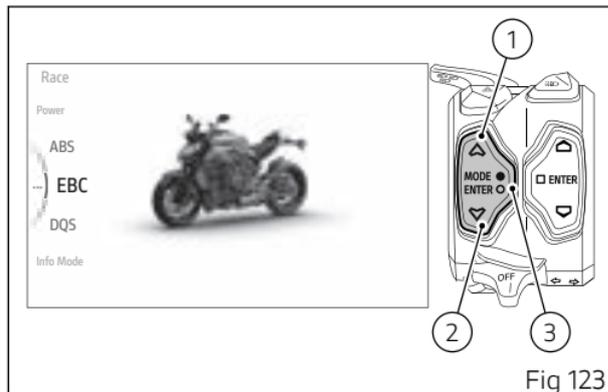

Fig 123
- From the Interactive Menu, use buttons (1) and (2) to select the item "Setting menu" and press ENTER (3).
- Select the "Riding Mode" item and press ENTER (3).
- Select the Riding Mode you wish to customise and press ENTER (3).
- Select the "EBC" (Fig 123) item and press ENTER (3).